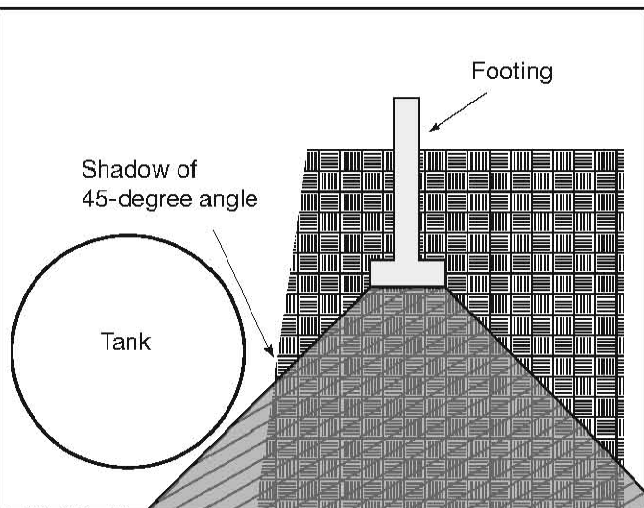

FIGURE 7-1
- 7.2.4. The location of a tank can be affected by the location of nearby structures. When selecting a tank site, care must be taken to avoid undermining the foundations of existing structures or new buildings to be constructed. See FIGURE 7-1.
- 7.2.5.4. The tank must not fall within the "shadow" of the 45-degree-angle line drawn from the foundation's footing. See FIGURE 7-1.